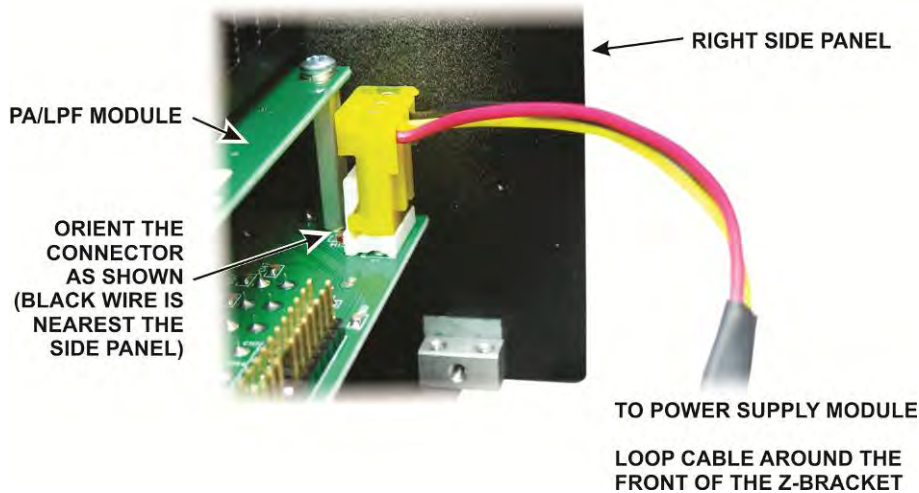

Figure 42. Connecting the 3-Wire Cable to the PA/LPF Module.
□ Locate the long three-wire cable attached to the power supply module. Route this cable around the front of the Z-bracket and plug it into the 3-pin connector on the front of the PA/LPF assembly near the right side panel as shown in Figure 42.